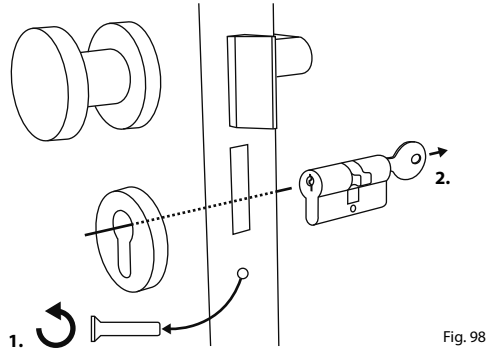

Fig. 98
- 1 Remove the existing door lock cylinder by loosening the forend screw in the door and pulling out the cylinder with the key inserted (Fig. 98).